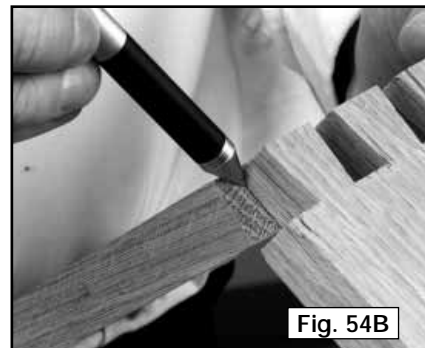

Fig. 54B
- Step 3** - Hold the boards together and mark the end of the pin board along the edges of the tails (Fig. 54B).